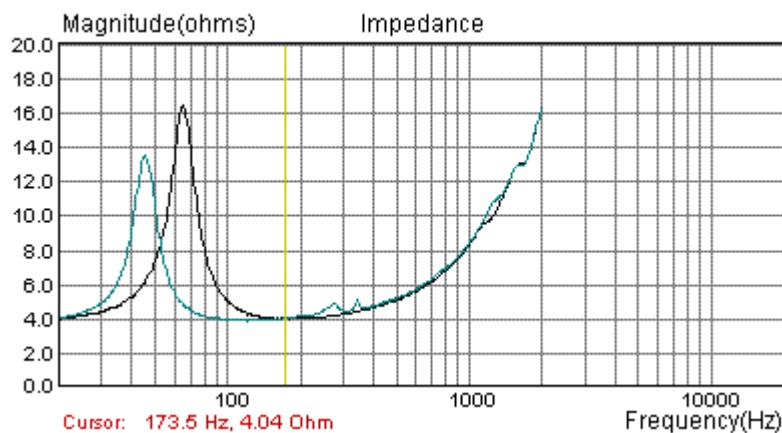

Figure 5.3 Impedance curves (the one with lower resonance frequency is obtained by adding mass to the membrane)
2. impedance data measured with an additional mass on the membrane (as in Fig. 5.3),